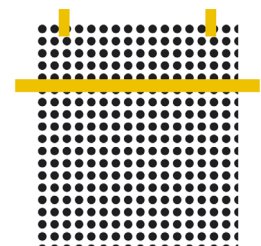

Figure 02
- › Apply a strip of masking tape across the graphic, at about 10 cm (4 in.) from the top edge. (FIG. 02)